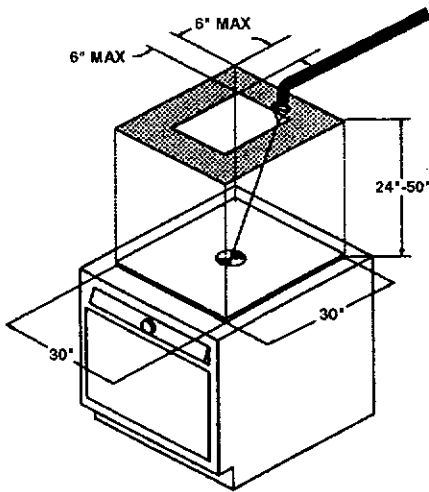

Figure 3-7. Model NL-R Nozzle Placement, Griddle.
The nozzle must be located over the griddle cooking surface, no more than six (6) inches from the edge of the protected zone. The nozzle must be aimed at the center of the protected zone. The nozzle must be mounted 24" to 50" above the cooking surface. See Figure 3-7.